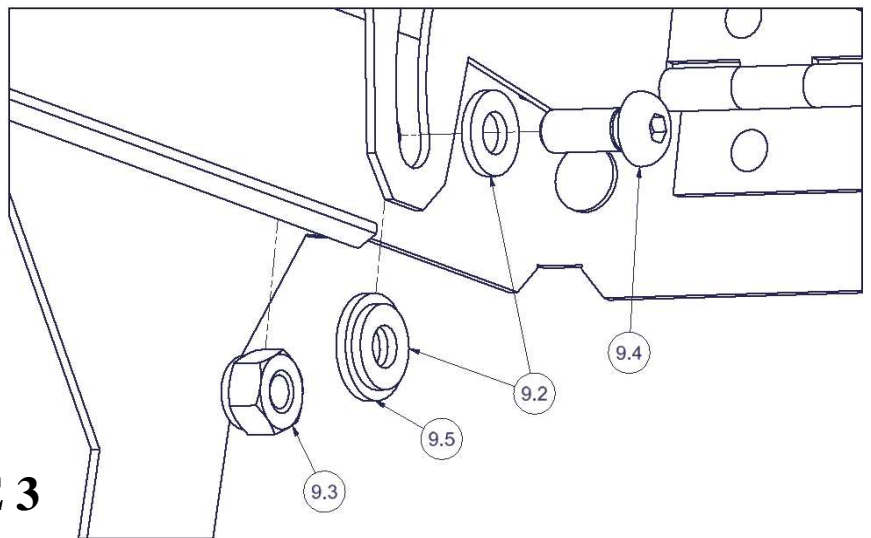

FIGURE 3
10. Assemble the lid support hardware, as shown in Figure 3. Tighten the hardware in small increments so that the lid remains supported as you require (usually self-supporting at a 45 degree lid angle).
NOTE: Second nylon washer, and steel washer (#9.2, and 9.5 shown below assembly in Figure 3) slip between moving slotted part, and stationary body.